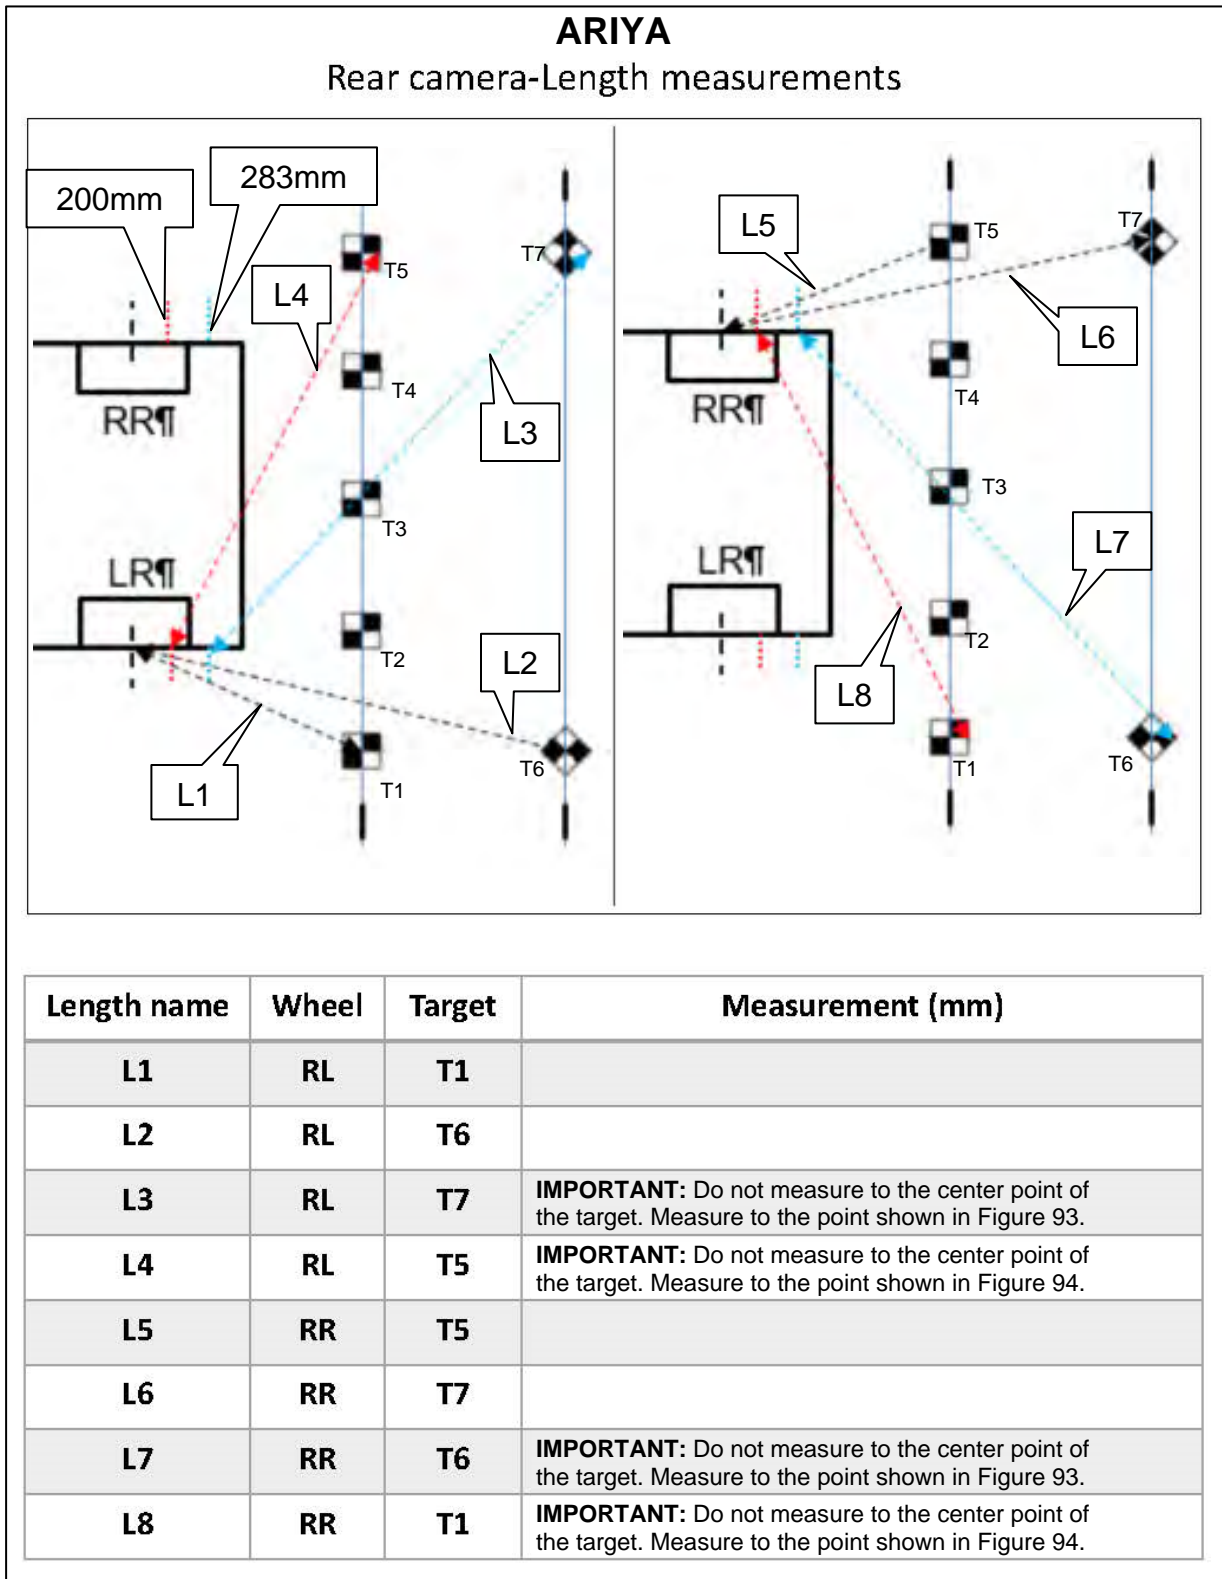

Figure 107
IMPORTANT: All measurements must be in millimeters (mm). Refer to the illustrations in Figure 107 on page 54 to ensure the correct measurement is documented in the correct order and for each calibration target.
66. Measure the distance between the center point of the driver (LH) side rear wheel to the center of the calibration target T1, and then document that distance as L1 in Figure 107 on page 54.
67. Measure the distance between the center point of the driver (LH) side rear wheel to the center of the calibration target T6, and then document that distance as L2 in Figure 107 on page 54.
68. Measure the distance between the 283 mm mark of the driver (LH) side rear wheel to the most rearward point of the calibration target T7, and then document that distance as L3 in Figure 107 on page 54.
69. Measure the distance between the 200 mm mark of the driver (LH) side rear wheel to the most rearward point of the calibration target T5, and then document that distance as L4 in Figure 107 on page 54.
70. Perform steps 66 - 69 starting on page 51 for the passenger (RH) side rear wheel measurements L5-L8, and then document the distances in Figure 107.